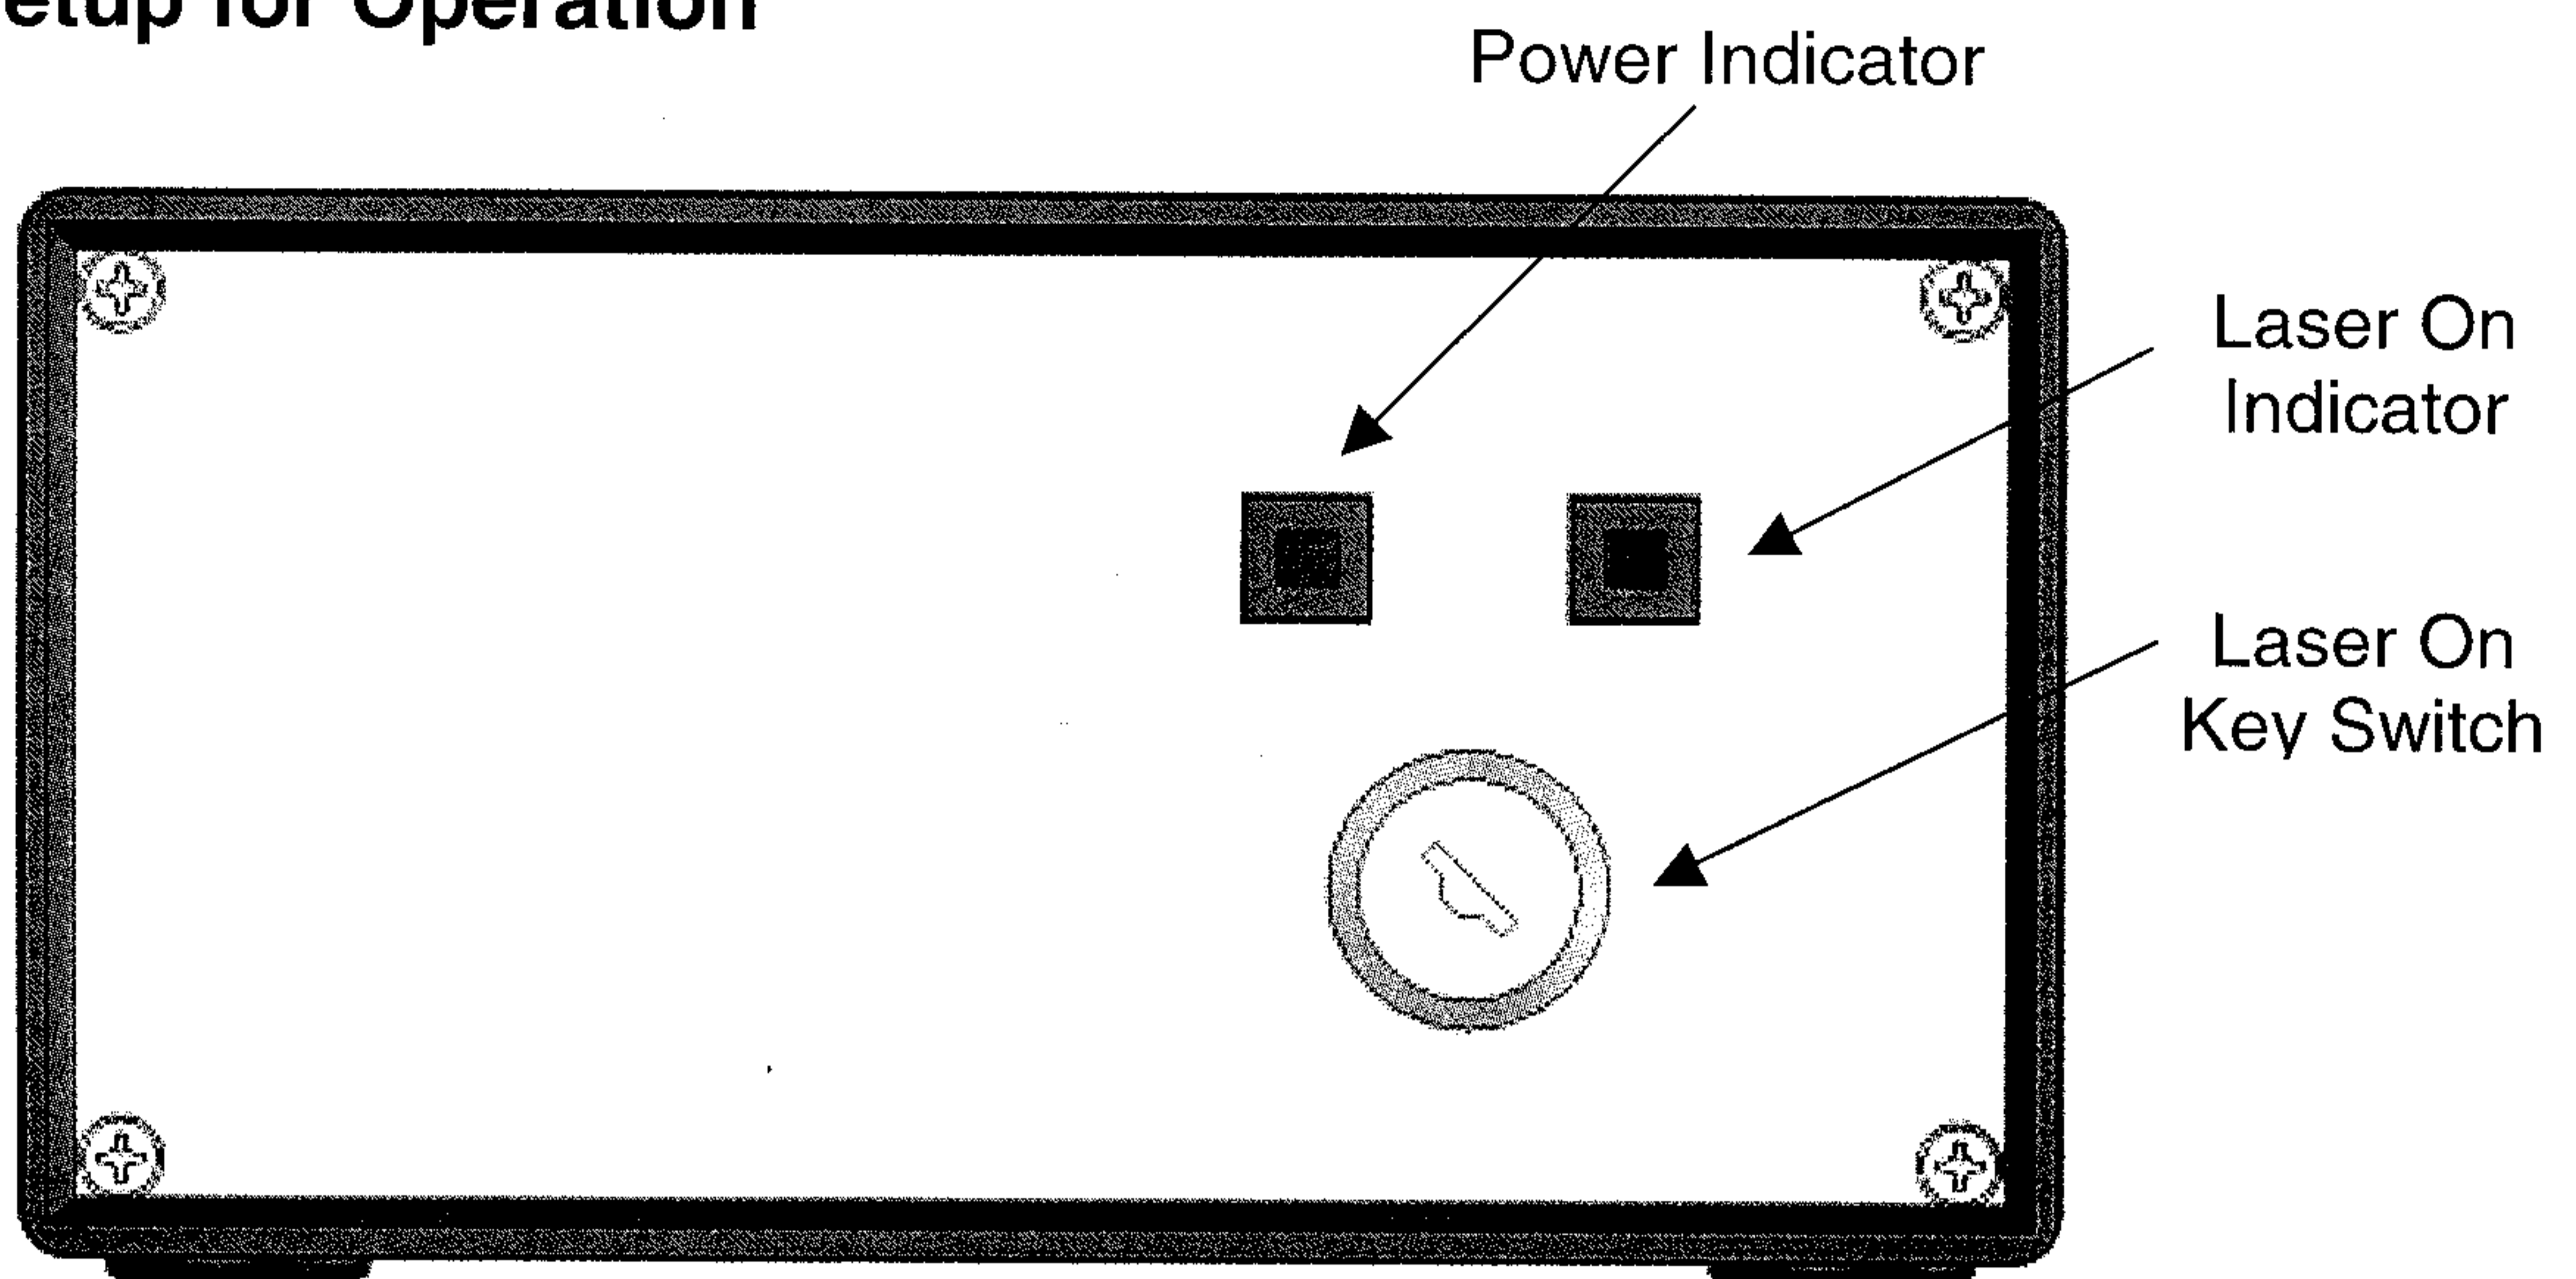
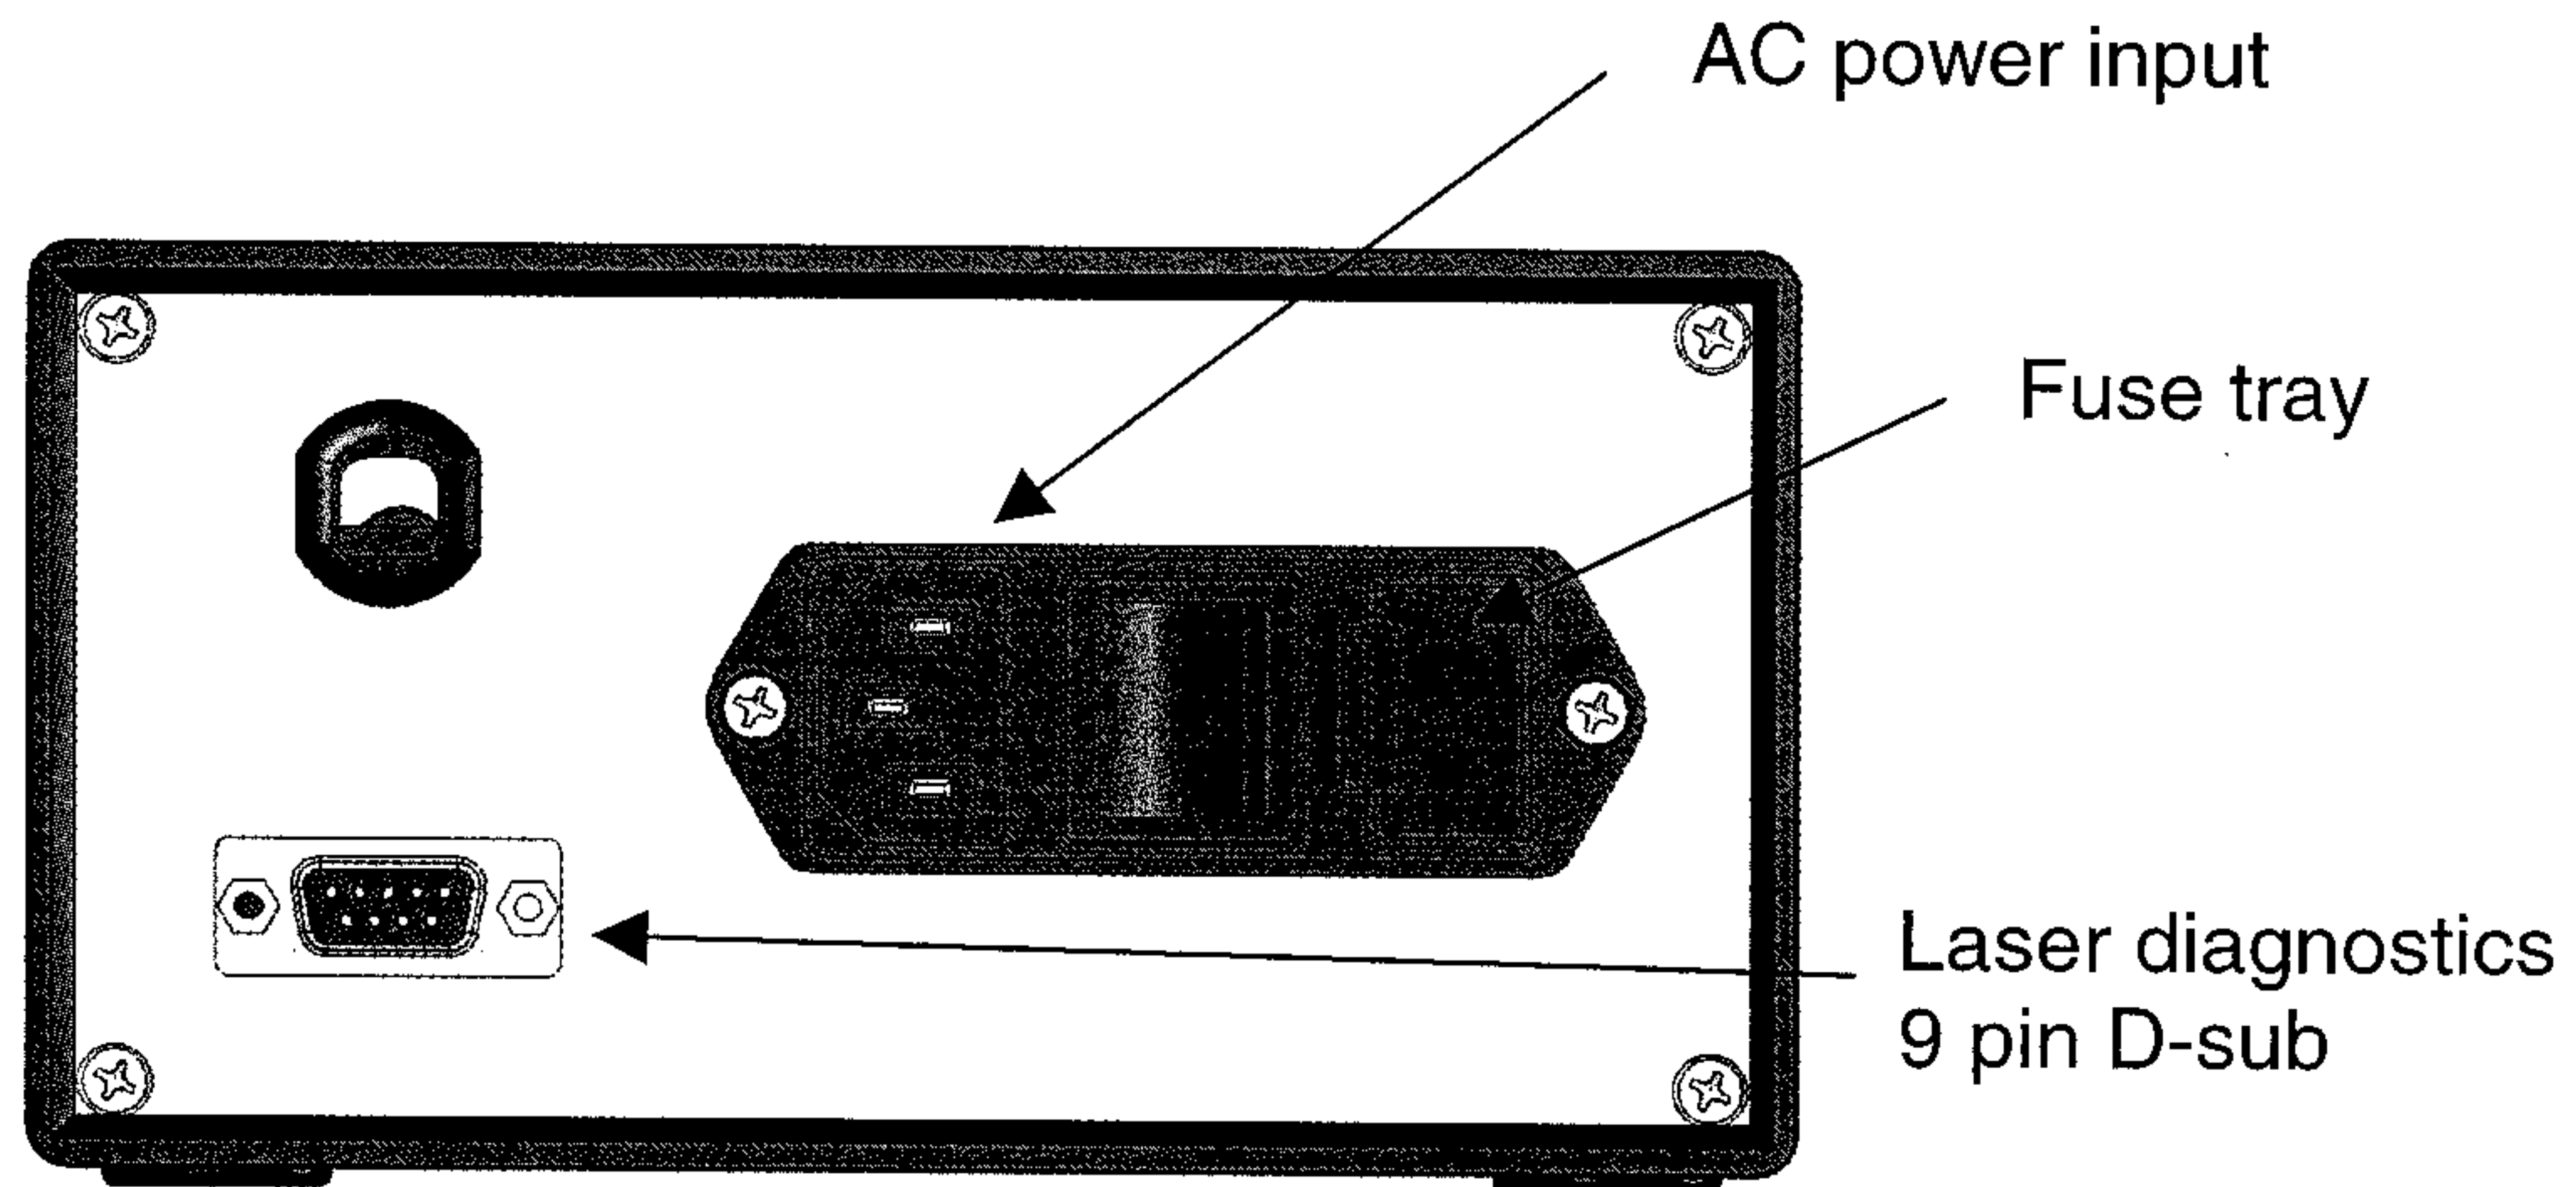

Figure 3 – PS-1 Power supply front panel
Figure 4 - Rear panel of PS-1 power supply
5. Turn on the power supply using the switch located on the back of the PS-1 power supply module (see Fig. 4). The red power indicator should come on (see Figure 3).
The laser output power can alternatively be set using the diagnostic connector (Pin 7) on the rear of the PS-1 power supply (see Figure 4, Table 3). Please note that only one of the two methods should be used at any one time and that these connections should be left open if not in use.